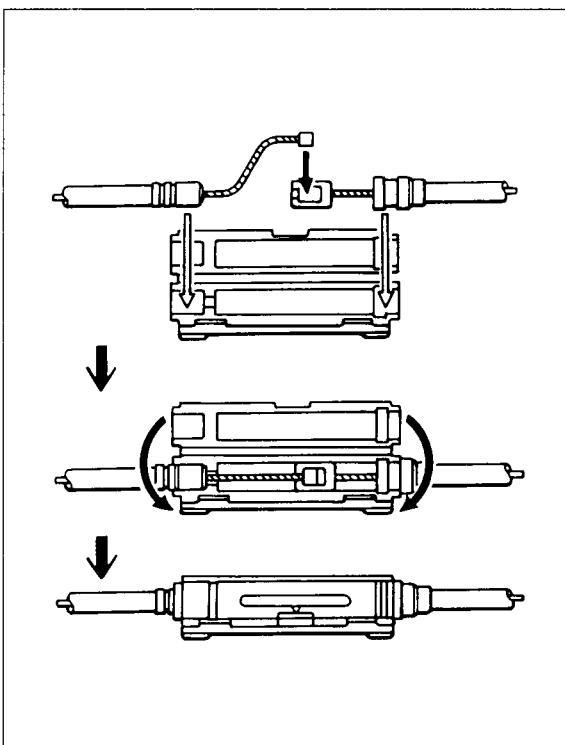

Fig. 2
- 1) Connect the throttle wire as shown in Fig. 2 and firmly close the cable joint. (Fig. 2)